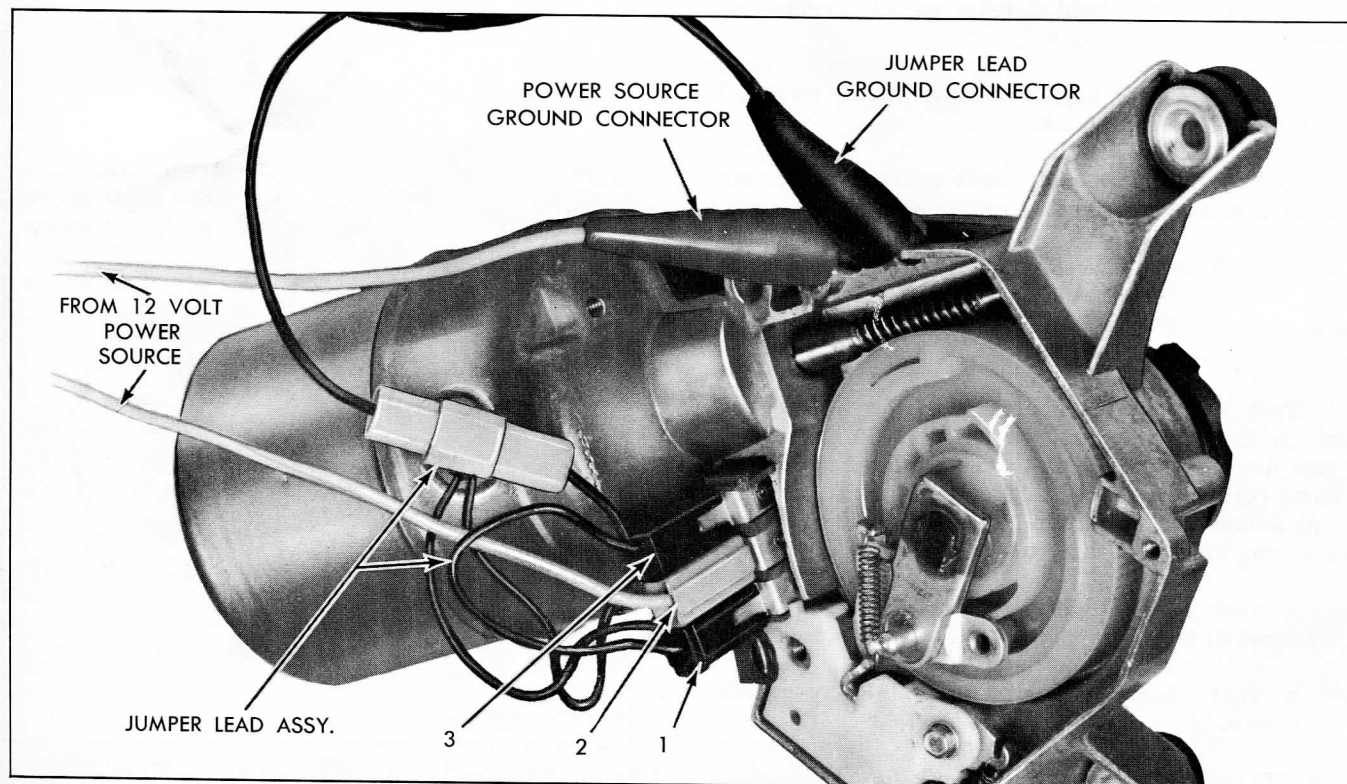

Fig. 12-41 Test Connections—Pontiac and Optional Tempest
1. Try operating wiper as shown in (Fig. 12-41).
2. Check wiper for LO speed operation (Fig. 12-41). If wiper has HI speed only, check the following items:
1. Check for grounded condition in internal black lead that connects to wiper terminal No. 3. Refer to Fig. 12-41 for terminal No. 3 location.
2. Connect wiper to operate in LO speed (Fig. 12-41). Connect ammeter (Range 0 - 30 amps.) in feed wire circuit to wiper and observe current draw. Allow motor to run until it becomes hot.